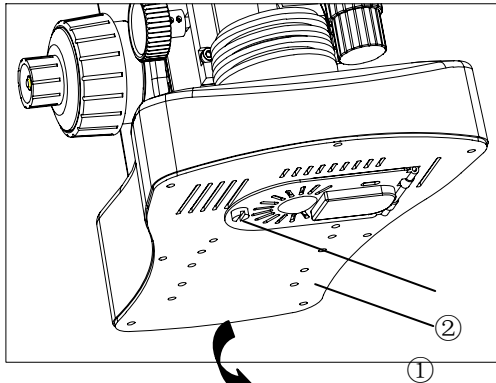

Fig.11
2.2.7 Installing and replacing the lamp (Fig.11,12,13)